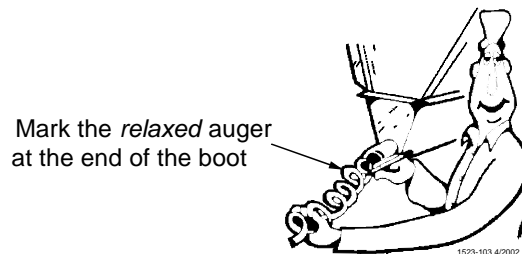

Figure 38. Wiring the Motor
13. Pull the auger at the boot end until it begins stretching. Then let it relax. In the relaxed position, mark the auger at the end of the boot. **See Figure 38.**